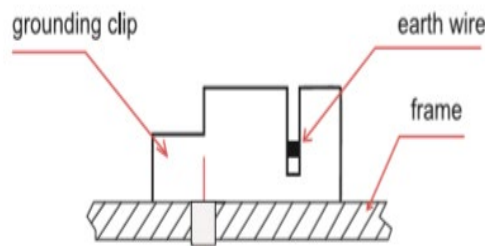

Figure 2
- As shown in the **figure2**, the grounding clip assembly consists of a slider, base, and self-captivating thread-cutting screw or 8-32 screw and hex nut. The grounding clip accepts solid uninsulated copper wire sizes 10 or 12 AWG.
<p>Figure 1 O-A</p>	 <p>Figure 2 O-B</p>